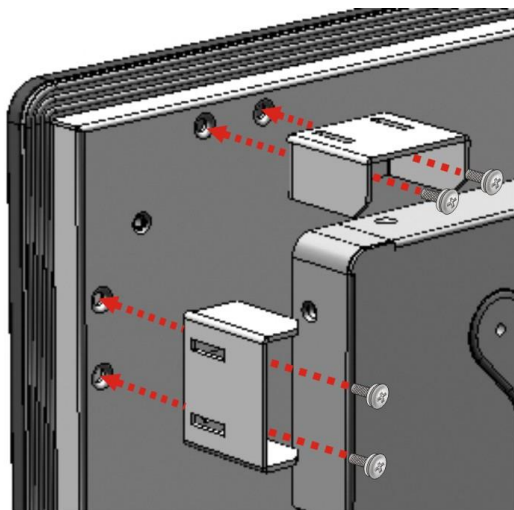

Figure 3-24: Secure the Mounting Clamp Holders
Step 3: Secure the mounting clamps holders to the corresponding holes on the rear of the monitor (**Figure 3-24**).